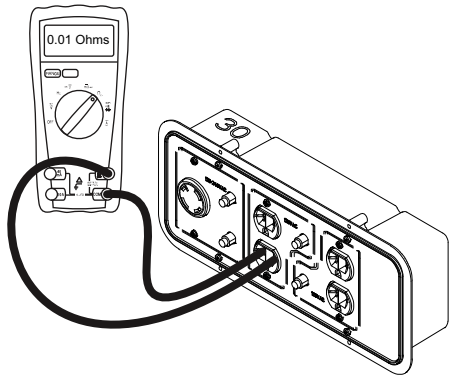

Figure 3-3. Checking Continuity of Receptacles
2. See Figure 3-3. Connect DMM to each receptacle on unit.